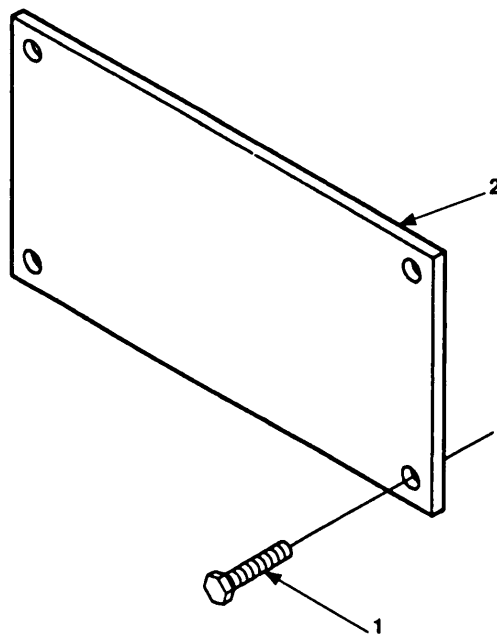

Figure 4-63. Data Plate Maintenance.
- a. Remove retaining hardware (figure 4-63, 1) from data plate (2).
- b. Remove data plate (2).
- a. Position data plate (2) in place.
- b. Use pop rivets to secure new data plate (2).